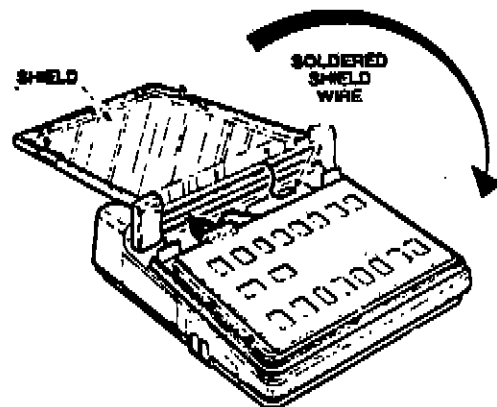

Figure 3-29. Unsoldering the Shield Wire
5. Separate the LCD bezel from the top cover and carefully rotate the bezel about 90 degrees. Locate the wire coming from the shield to the controls assembly, as shown in Figure 3-29.